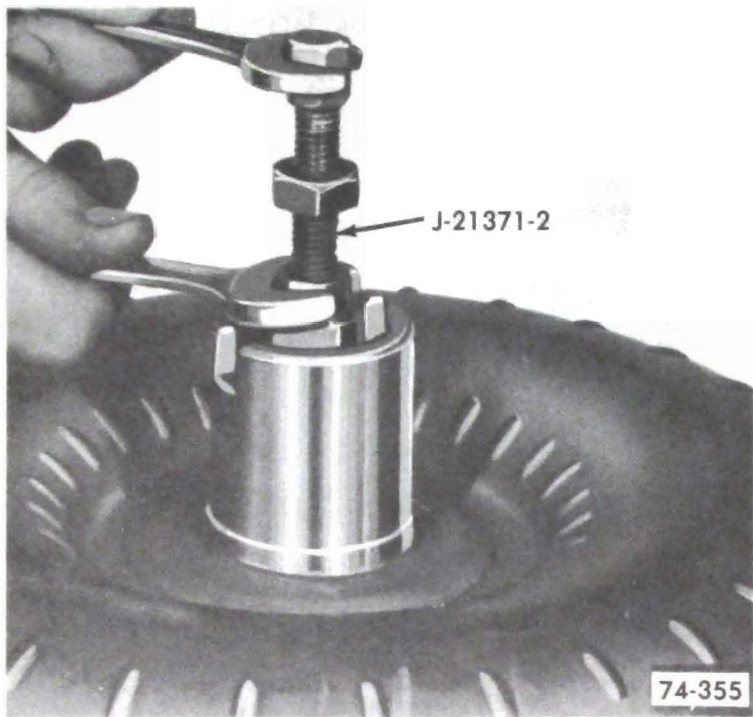

Figure 75-284
1. Install tool J-21371-2 and tighten brass nut. See Figure 75-284.